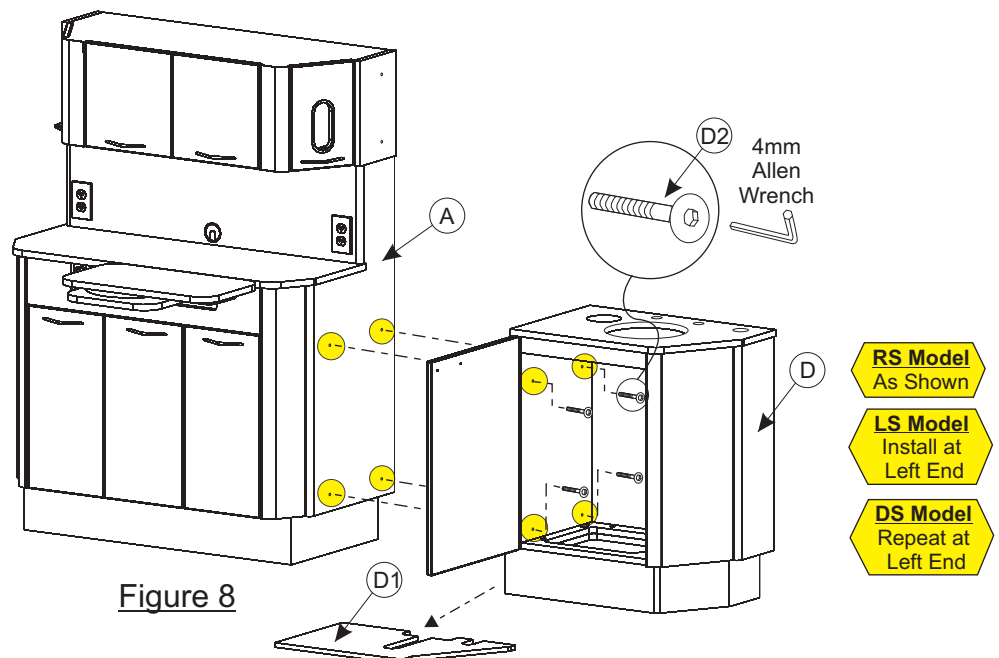

Figure 8
Mount the Sink Cabinet (D) to the proper end of the Lower Cabinet (A) using (4) 1/4-20 Connecting Bolts (see Figure 8). Tighten bolts using a 4mm allen wrench.